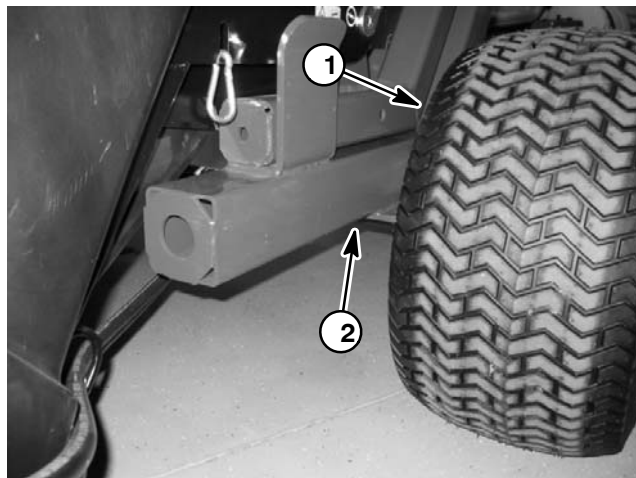

Figure 1
2. Position jack securely under the main sweeper frame (Fig. 1). Do not use the axle as a jacking point.